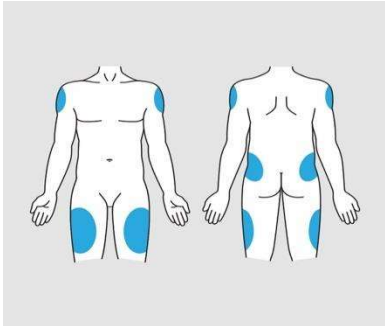

Figure 12: Intramuscular injection sites
1. Choose the injection site. Intramuscular injection sites include shoulder (deltoid), upper buttock (ventrogluteal), and thigh. (Figure 12)